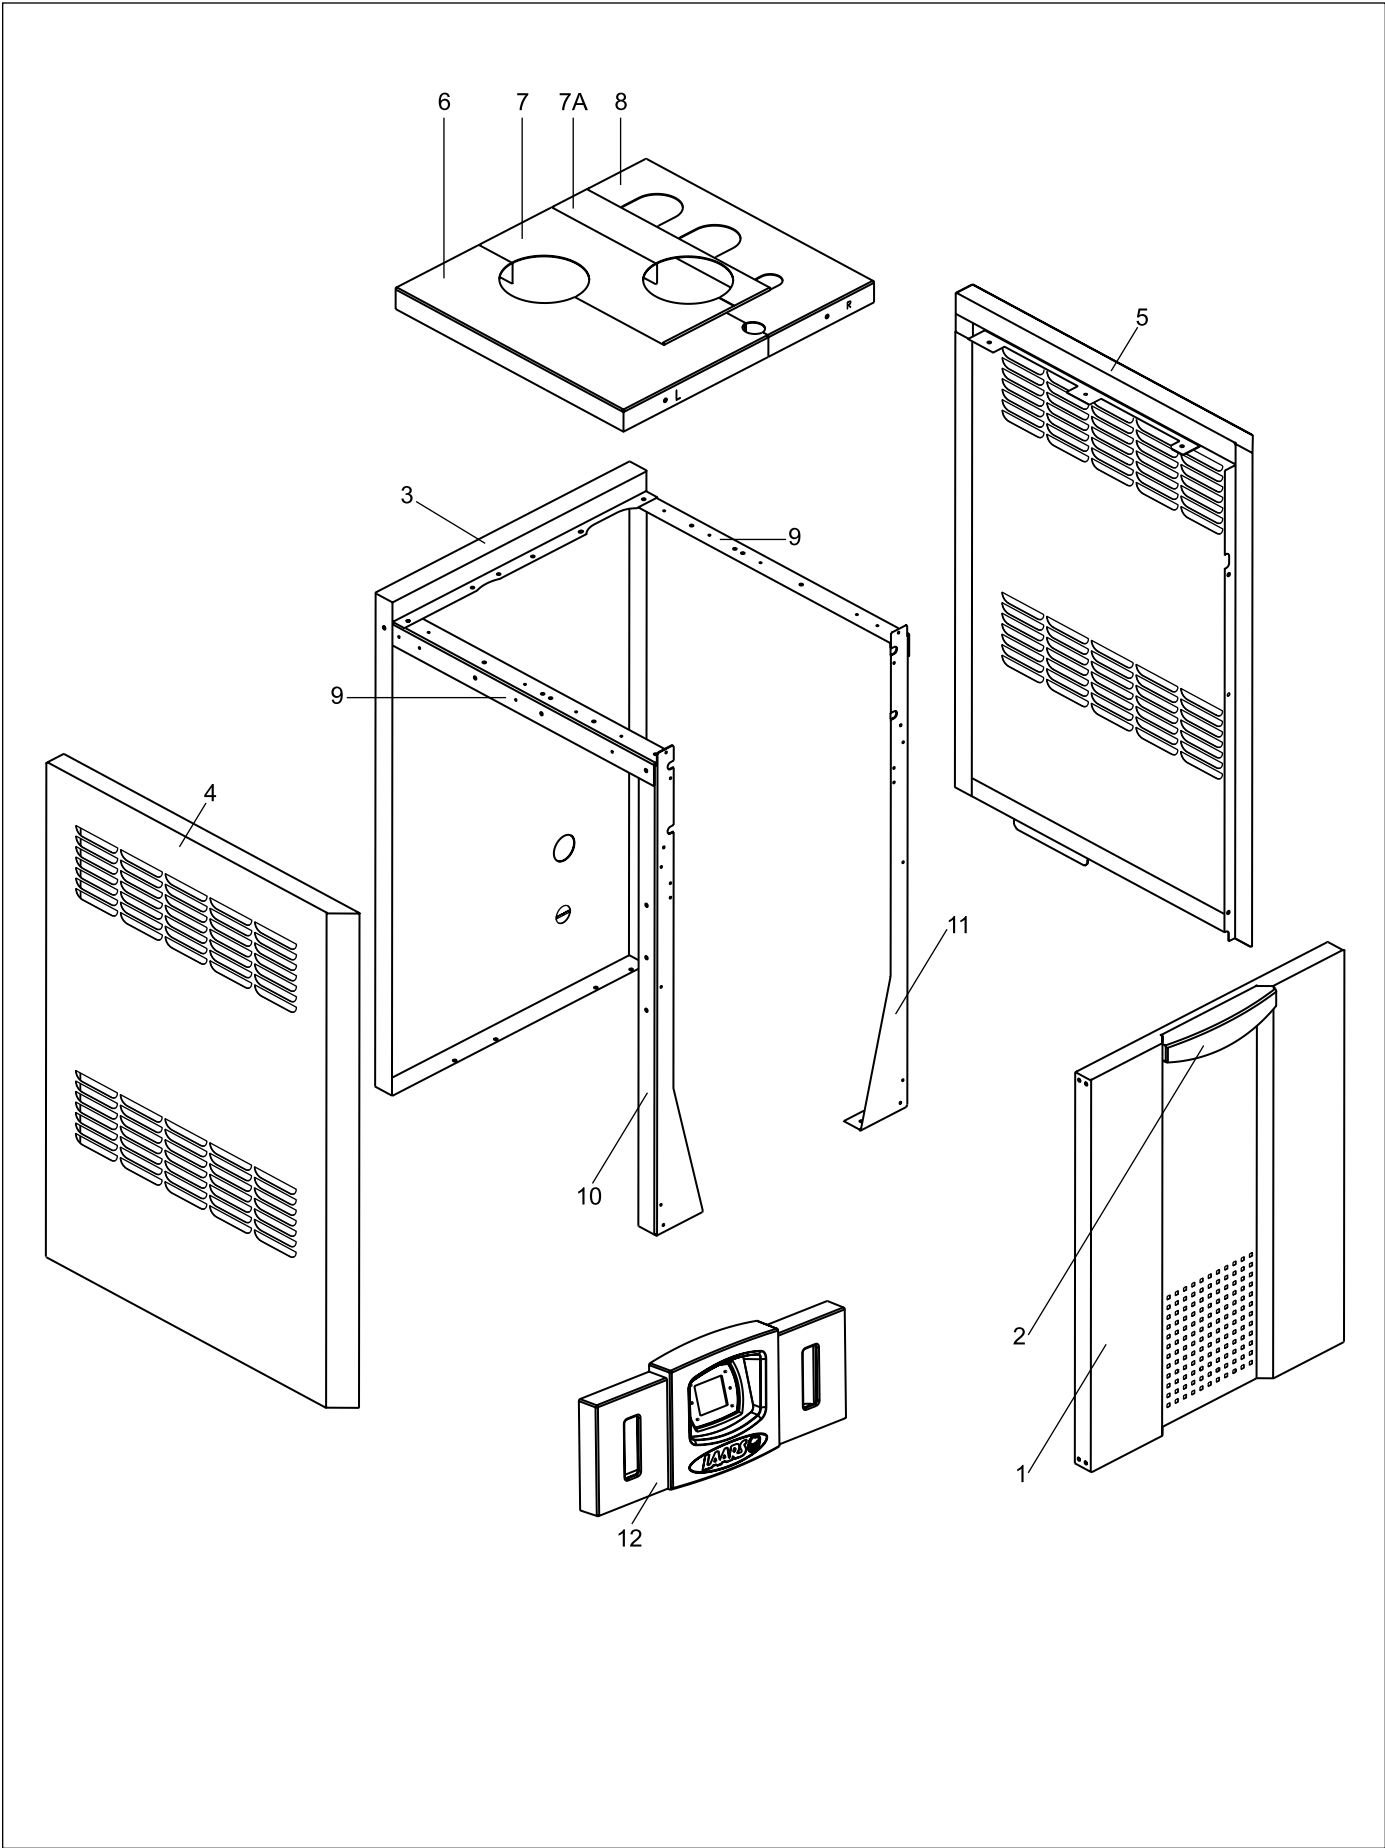

Figure 35. Jacket Components.
13.2 Parts List**Jacket Components – See Figure 35**
Jacket Components – See Figure 35